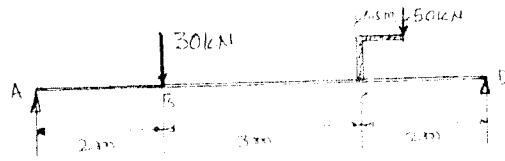

Fig. Q5 (b)
- b. Draw the shear force and bending moment diagrams for a beam subjected to load as shown in Fig.Q5 (b). (10 Marks)